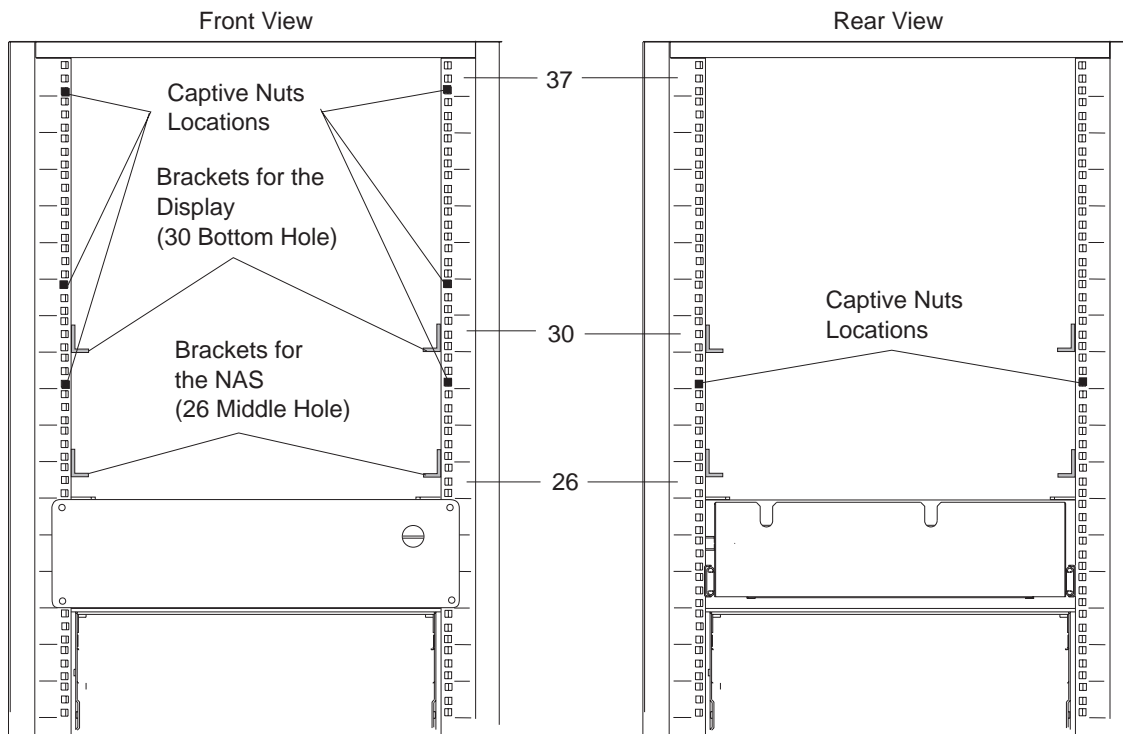
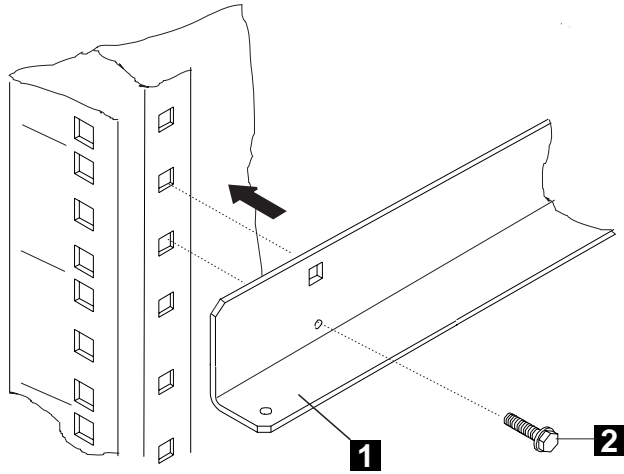
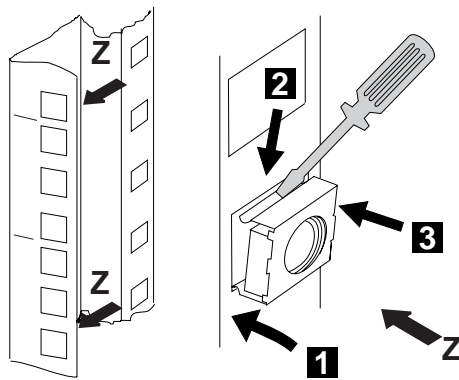

Figure 1-8. Brackets and Captive Nuts positioning for the NAS with Earthquake Feature
Figure 1-9. Brackets Installation
Figure 1-10. Captive Nuts Installation
1. ___ Install the brackets (PN 43G3111) for the NAS if not already done. Refer to Figure 1-8 for bracket positioning, and Figure 1-9 on page 1-8 for brackets installation.
2. ____ Install the captive nuts on the rack for installing the NAs and the display. Refer to Figure 1-8 on page 1-7 for the front and rear rack location, and Figure 1-10 for installation.
1. ____ Install the brackets (PN 43G3111) to install the display (refer to Figure 1-8 on page 1-7).